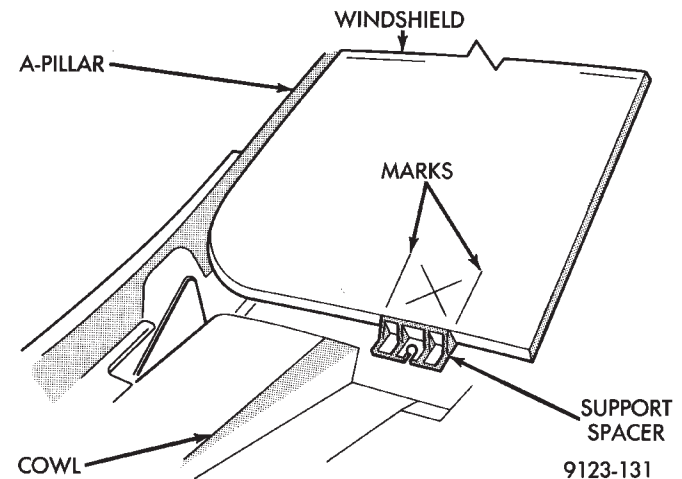

Fig. 5 Center Windshield and Mark at Support Spacers
(1) Place replacement windshield into windshield opening. Position glass in the center of the opening against the support spacers. Mark the glass at the support spacers with a grease pencil or masking tape and ink pen to use as a reference for installation. Remove replacement windshield from windshield opening (Fig. 5).